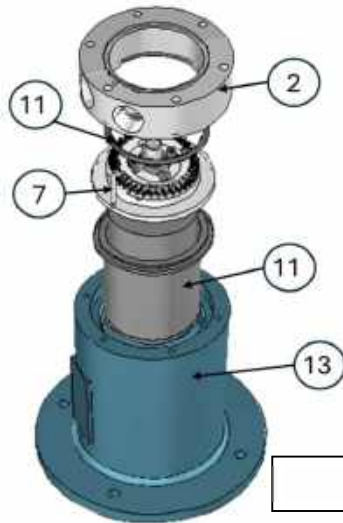

Figure 5
5. Remove (Figure 5) the pump head (2), bracket (13) and rear casing (11) to insulate the internal impeller and magnet assembly (Figure 6). At the same time, remove and replace the O-Ring (16) and the elastic dowel pin (7). Figure 5